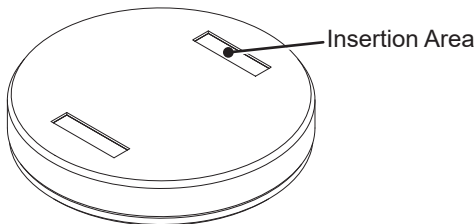

Figure 32, Plug Seal (26)
Refer to Figure 32
In order to gain access to the shock valves (24 & 25), it is necessary to remove the shock valve seals (26). This is accomplished by inserting a seal hook or puller into, and through, one of the insertion points (*rectangular recesses*) on the shock valve seal, refer to figure 32. After successfully removing the plug seals, discard and replace with new seals.